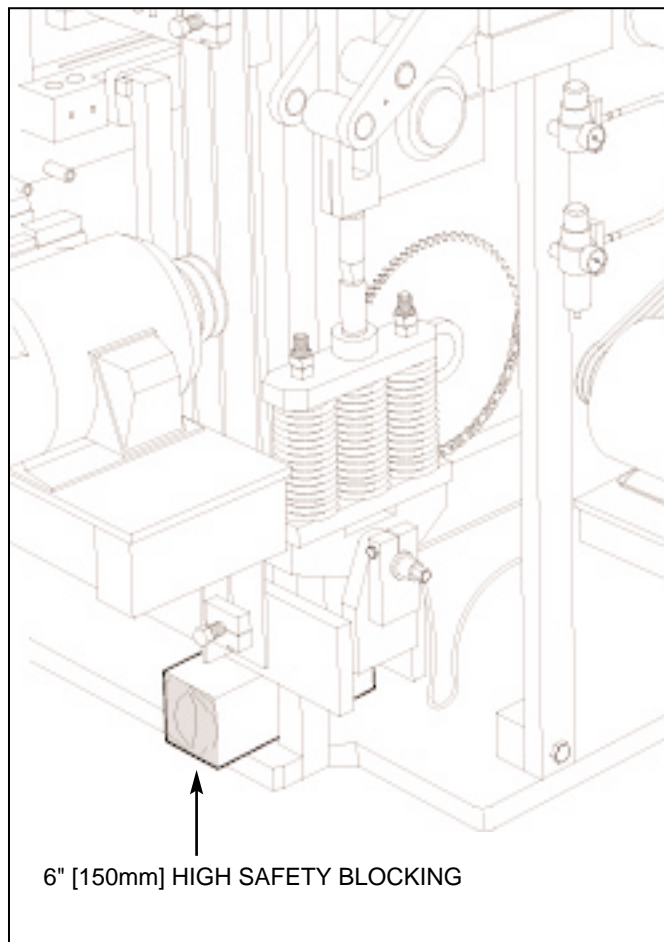

Figure 4.36 PLACING SAFETY BLOCKING.
- 4.3.10 Place safety blocking of **6" [150mm]** high under the pallet receiver frame (see figure 4.36)